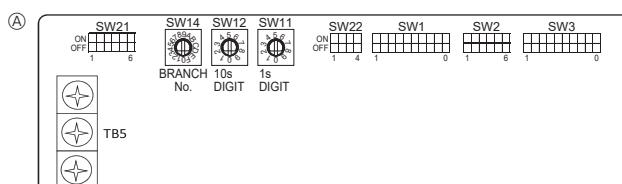

Fig. 5-9
5.5. Setting addresses (Fig. 5-9)
5.6. Switch setting for high ceiling or at the time of changing the number of air outlets (Fig. 5-9)
5.7. Sensing room temperature with the built-in sensor in a remote controller (Fig. 5-9)